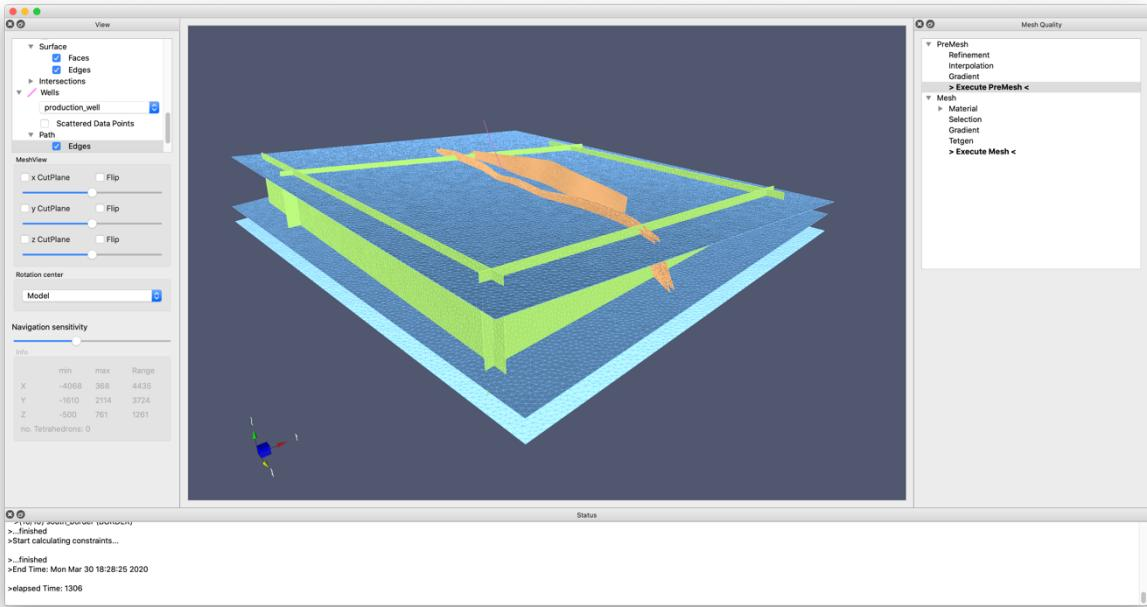

Figure 4 Visualization of surface meshes after PreMesh execution
- Visualize surfaces via **View Panel** → **Surface** → check **Faces** and **Edges** (see Figure 4)